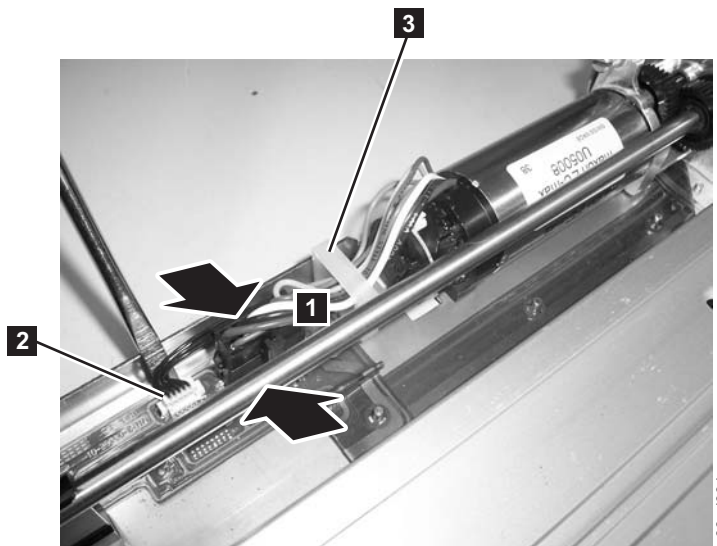

Figure 8-58. Y motor connector
4. See Figure 8-58 on page 8-60. Remove the large black connector.
- a. Pinch the latch (1 in Figure 8-58) on the cable connector.
5. Use a small flat blade screw driver to pry up on the small white connector (2 in Figure 8-58) gently working the screw driver blade along the entire outside edge of the connector.